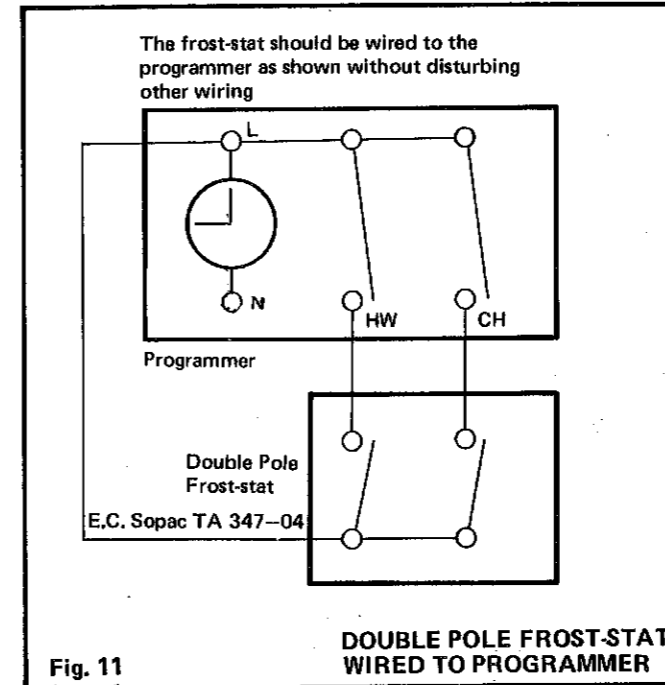

Fig. 11
- parallel with the control(s) to be over-riden (see Fig.11).